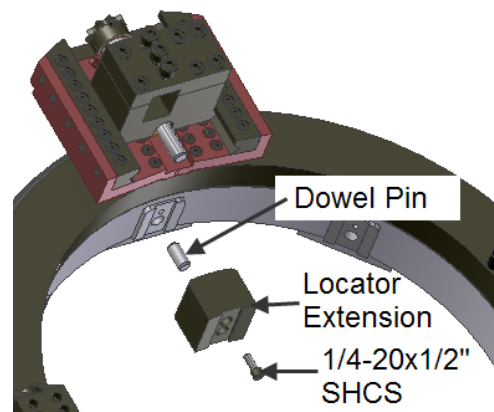

Figure 4
5. If required, bolt the locator extensions to the locator pads (see Fig. 4). The locator pads are adjusted by turning the set screws that are accessed from the outside of the housing with a 3/8" Allen wrench. Back-up the locator pads as needed for proper clearance of pipe diameter. Ensure the motor mount area will be accessible when Clamshell is tightened into place